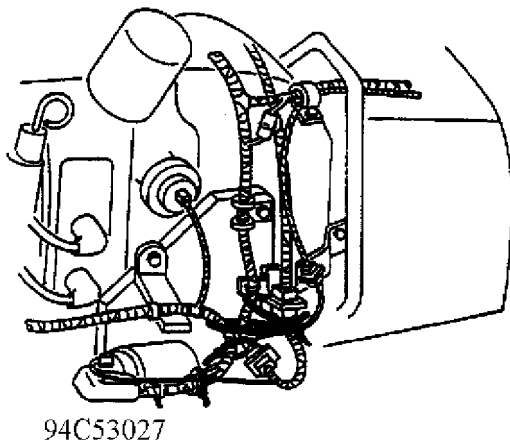

Fig. 3: Securing Starter Solenoid Wiring Harness
5. Tape off OEM starter solenoid wire. Secure countermeasure harness with 4 tie-wraps E018 67C92, see Fig. 3. Confirm there is no interference between the brake and fuel lines.